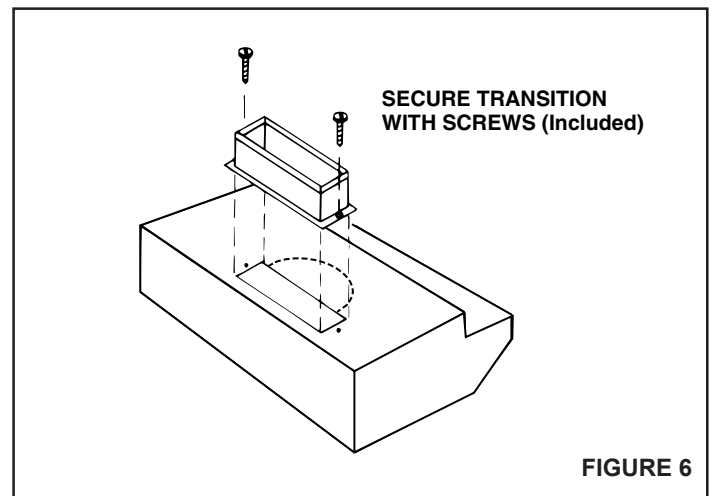

FIGURE 6
**For 3 1/4" x 10" vertical discharge installation, refer to FIGURE 6.** Secure 3 1/4" x 10" transition (if used) to top of hood.